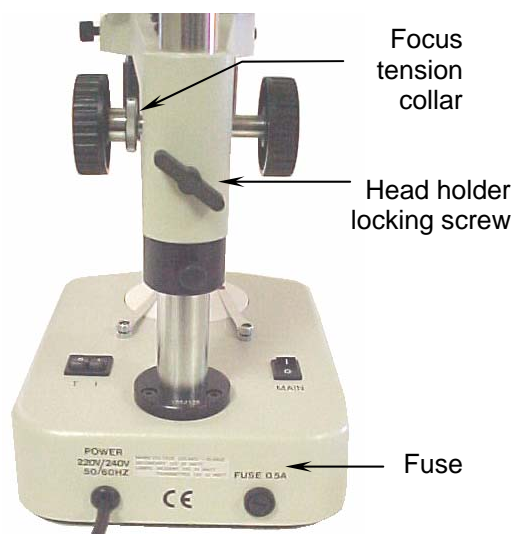

Fig. 1
- A. Place the base of the microscope (13) upright on a flat, stable and clean surface.
- B. Ensure that the head holder locking screw (Fig. 1) is tight.
- C. Loosen the head holder locking screw (5) and place head (14) in head holder (17) with extreme care.
- E. Connect incident illumination to power cord (15) located at the upper part of the column (21).
1. Turn the zoom knob (16) to the lowest magnification 1X.
2. Place a flat object or a microscope slide on the centre of the stage (11).
3. Turn focussing knobs (18) to mid-focus range.
4. The head holder (17) is mounted on a column (21), on which it can be moved up or down, depending on the size of the object to be focussed on.
- a. Support head holder (17) with one hand without touching any lens, and with the other, loosen the screw (20) on the support collar (19). The head holder can then be slid to the base (13).
- b. Without letting go of the head, loosen the head holder locking screw. (Fig. 1).
5. Adjust the focus knobs, (18) until the image appears sharp.
- a. With a flat screwdriver, lightly press on the slot of the fuse holder cover (Fig. 1) and turn 1/4 in the direction of the arrow marked.